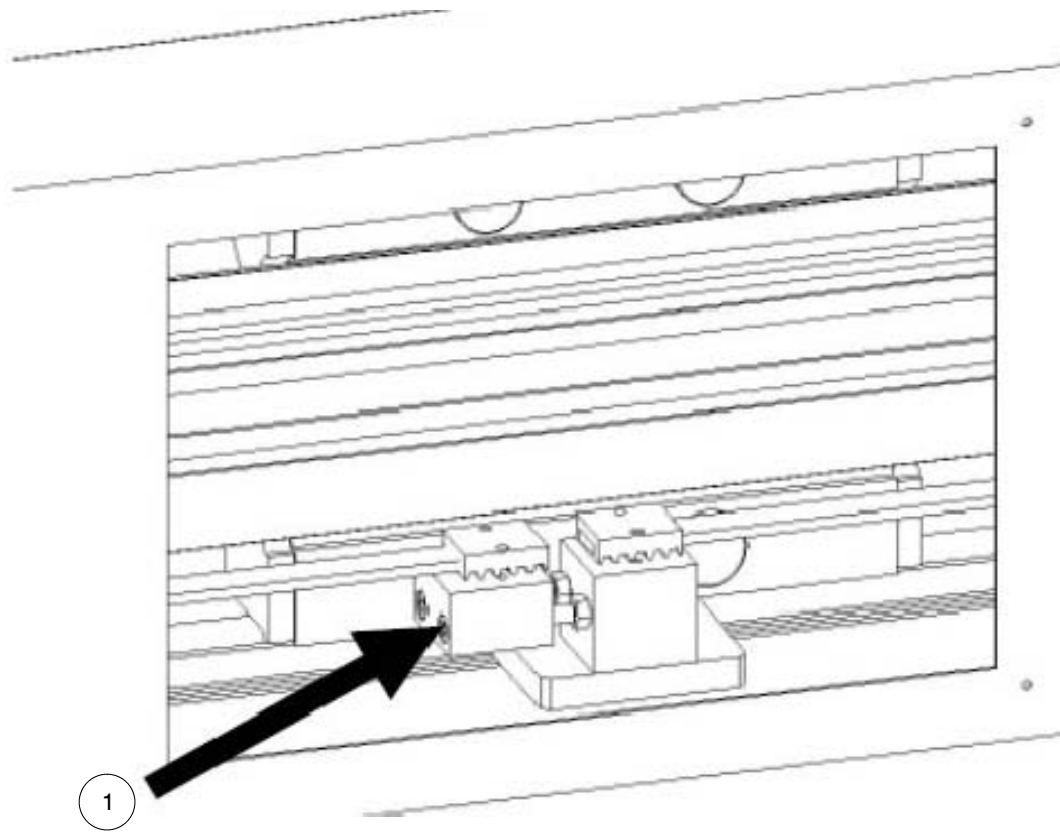

Fig. 5-4 Slacken the belt
7. See Figure 5-4. Remove the access panel on the column cover, and using a spanner, slacken the belt by unscrewing the bolts of the clamp (1).